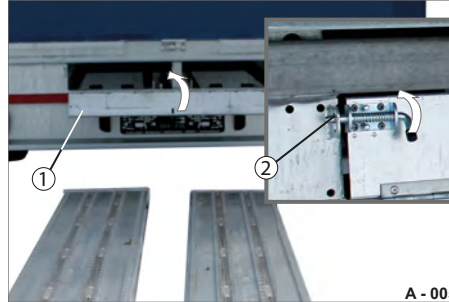

Fig. 9 Ramp planks removed
- ▶ Close the flap (Fig. 9/1) of the ramp plank bay.
- ▶ Turn the two spring bars (Fig. 9/2) into the horizontal position.